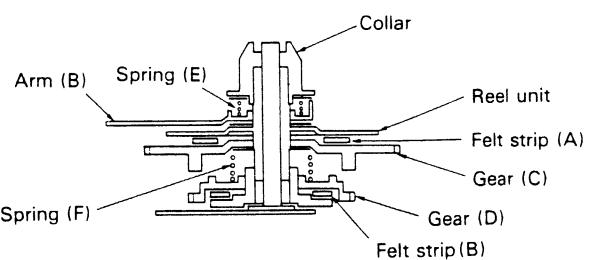

Fig. 22
- Based upon a friction mechanism, part of the reel rotates while part is motionless. Motion is transferred from the flywheel by gear (C) (Figure 22). Pressure applied by spring (E) causes the transfer of motion from gear (C) to the reel unit. However, when a cassette tape has been inserted into the unit, both reels are pulling with equal force in opposite
direction, resulting in the reel unit remaining motionless. Felt strip (A) (Figure 22) allows slippage in order to prevent stretching of the tape.